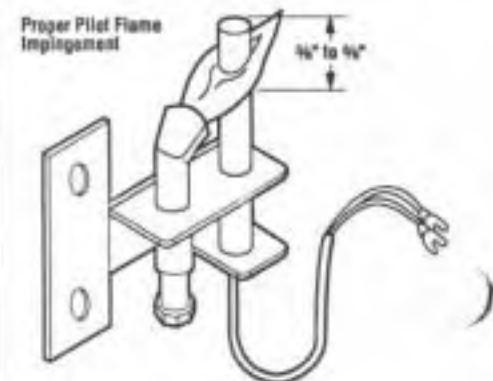

Figure 21
The top of the pilot generator (thermopile) (approximately 3/8" to 1/2") should be engulfed in the pilot flame (Figure 21).
Visually inspect the pilot. Brush or blow away any dust or lint accumulations. If the pilot orifice is plugged, disassembly may be required to remove any foreign material from the orifice or tubing. When appliance is put back in service, check the pilot flame patterns with *Figure 21*.
2. Adjust the pilot screw to provide properly sized pilot flame (*Figure 21*). Turn counter clockwise to enlarge pilot flame and clockwise to reduce the pilot flame. DO NOT attempt to adjust pilot flame more than one half turn.